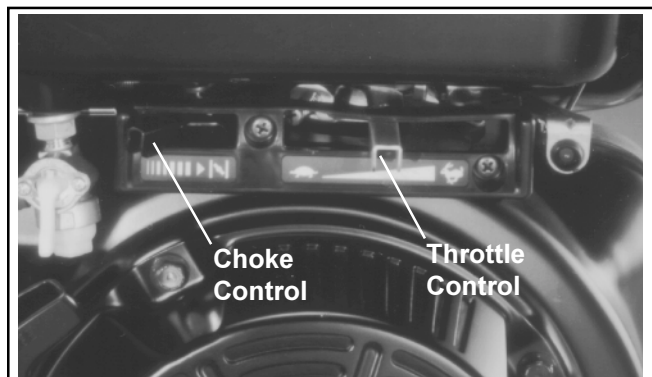

Figure 5. Control Panel.
2. **For a Cold Engine** – Place the throttle control **midway** between the “slow” and “fast” positions. See Figure 5. Place the choke control into the “on” position.